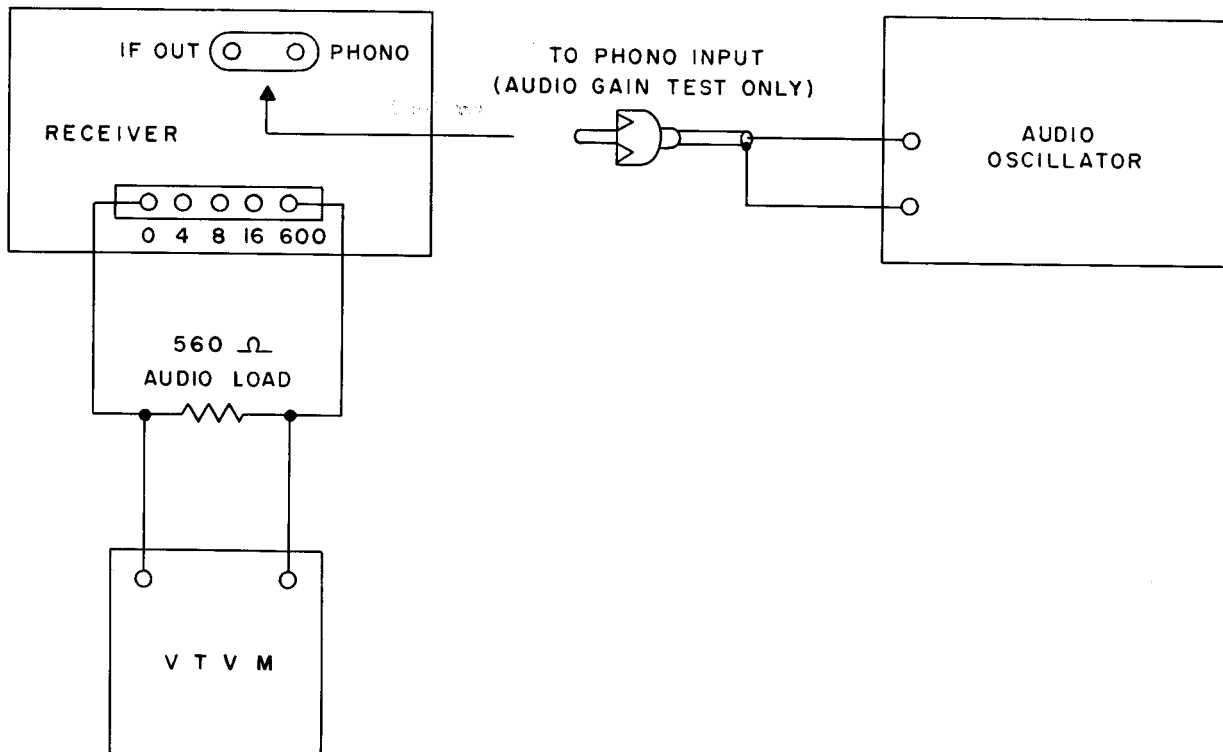

Figure 4-1. Test Equipment Connections for Audio Gain Test and I-F Alignment
a. Plug audio oscillator into PHONO jack at rear of receiver, and connect 560-ohm audio load and a-c vtvm in parallel across 600-ohm speaker terminals (Figure 4-1).
c. Connect 560-ohm audio load and a-c vtm in parallel across 600-ohm speaker terminals (Figure 4-1).